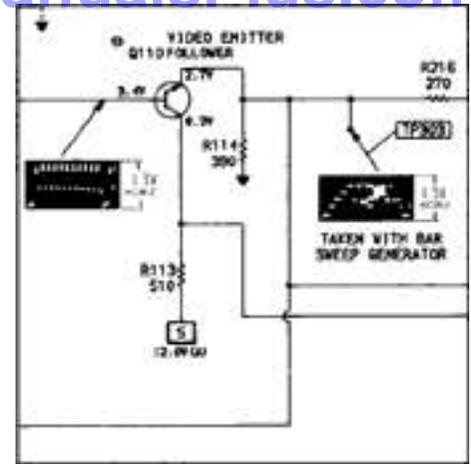

Figure 3: The schematic often gives you the signal type, polarity, and amplitude of the signal.
2. Use the waveform shown on the schematic as a guide for selecting the proper substitute signal type, polarity, and amplitude, as shown in Figure 3.